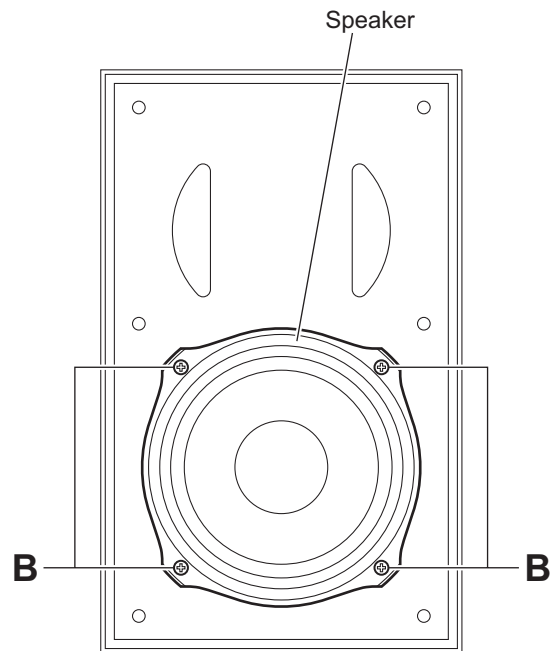

Fig.4
3.4.4 Removing the speaker (See Figs.4 and 5)
- (1) From the front side of the speaker main body, remove the four screws **B** attaching the speaker. (See Fig.4.)